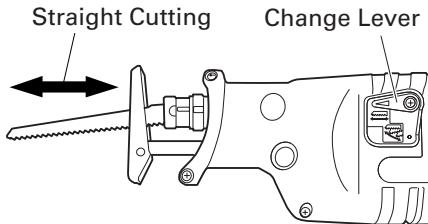
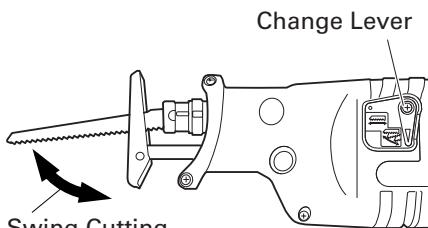
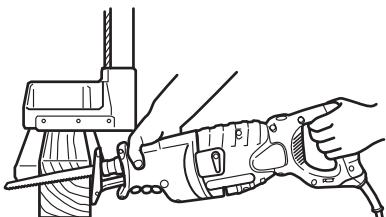

Fig. 14
Fig. 15
Fig. 21
Two cutting systems can be selected with this unit. The first is straight cutting, in which the saw blade is moved linearly, and the second is the swing cutting, in which the saw blade is swung like a pendulum. (Fig. 14, Fig. 15)
You can perform straight cutting by setting the change lever widthwise. Straight cutting should normally be performed when cutting hard materials such as metal, etc. (Fig. 14)
Swing cutting is efficient since the saw blade forcibly bites into the material. (Fig. 15)
- You can cut smoothly if you set the change lever position to straight cutting (Fig. 14).
- (1) When cutting lumber, make sure that the workpiece is fastened firmly before beginning. (Fig. 21)
- (2) You can cut efficiently if the speed of the saw blade is set to dial scale "5".
- (3) You can cut efficiently if the change lever position is set to swing cutting (Fig. 15). Alternatively, you can cut cleanly if the change lever position is set to straight cutting (Fig. 14).